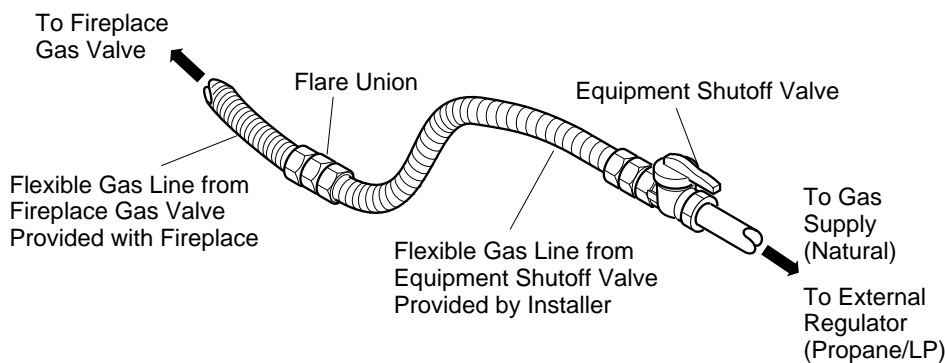

Figure 36 - Attaching Flexible Gas Lines Together
3. Attach a 45° flare union gas connector to flexible gas line from gas supply (see Figure 36). Connect flare union to flexible gas line attached to gas regulator of fireplace (see Figure 36).